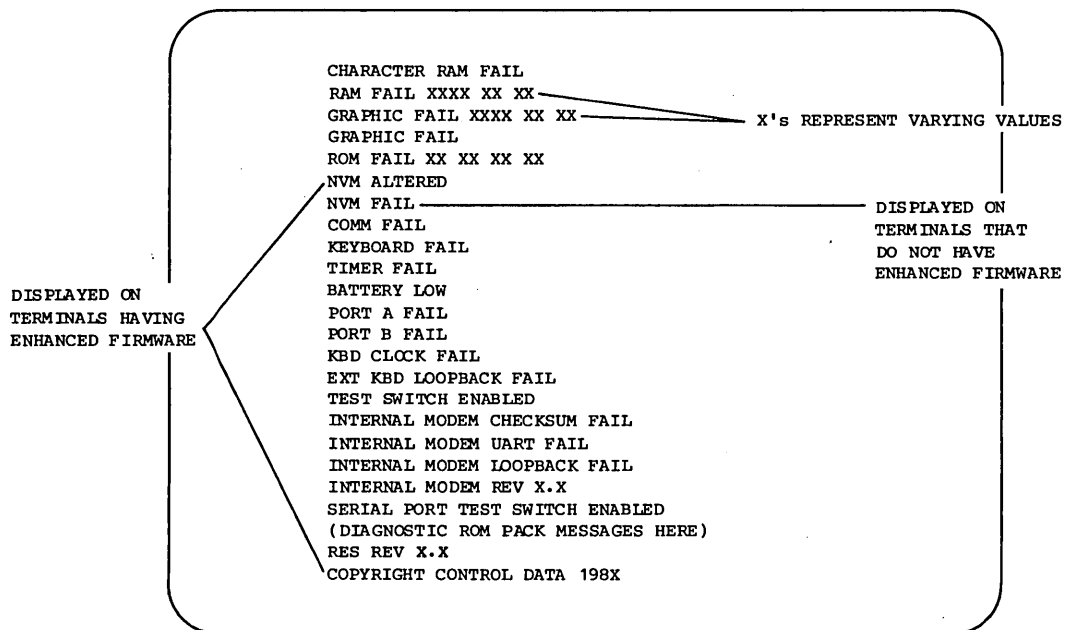

Figure 6-1. Display After Test 1 If Everything Failed
- Internal Modem - This test checks the modem assembly ROM, UART, and modem board (modem loopback section) and displays an appropriate error message plus the revision level of the modem if a failure occurs (see figure 6-1). The modem loopback section takes approximately 10 seconds and is enabled/disabled by the third bit in the F4 field of terminal installation parameters. If the loopback section is to run with the rest of the internal modem test, that parameter bit must be a 1.
- Revision Level and Copyright - On terminals having the enhanced firmware, this section displays the revision level of the firmware plus a Control Data copyright message (see figure 6-1). This occurs at the end of the test when the mode selection menu appears (the message and menu do not appear if automatic mode selection is in effect). On terminals that do not have the enhanced firmware, this section displays only the revision level of the firmware when a failure occurs.
- Completion of test 1 is signaled by the audible alarm sounding at a soft, loud, then soft level. See Figure 6-1 for internal diagnostic failure format after test.